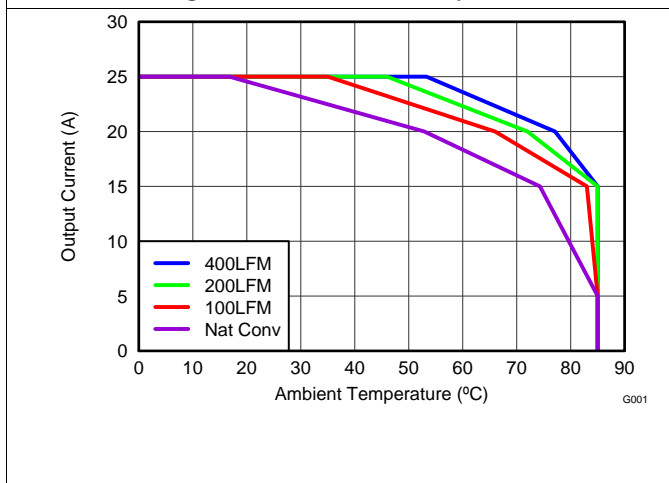

Figure 3. Safe Operating Area – PCB Horizontal Mount
$T_J = 125^{\circ}\text{C}$, unless stated otherwise. The Typical Power Block System Characteristic curves Figure 3 and Figure 4 are based on measurements made on a PCB design with dimensions of 4.0 inches (W) × 3.5 inches (L) × 0.062 inch (H) and 6 copper layers of 1 oz. copper thickness. See Application and Implementation for detailed explanation.
$T_J = 125^\circ\text{C}$, unless stated otherwise. The Typical Power Block System Characteristic curves Figure 3 and Figure 4 are based on measurements made on a PCB design with dimensions of 4.0 inches (W) x 3.5 inches (L) x 0.062 inch (H) and 6 copper layers of 1 oz. copper thickness. See Application and Implementation for detailed explanation.
The SOA curves in the CSD87588N data sheet provide guidance on the temperature boundaries within an operating system by incorporating the thermal resistance and system power loss. Figure 3 to Figure 4 outline the temperature and airflow conditions required for a given load current. The area under the curve dictates the safe operating area. All the curves are based on measurements made on a PCB design with dimensions of 4 inches (W) x 3.5 inches (L) x 0.062 inch (T) and 6 copper layers of 1 oz. copper thickness.